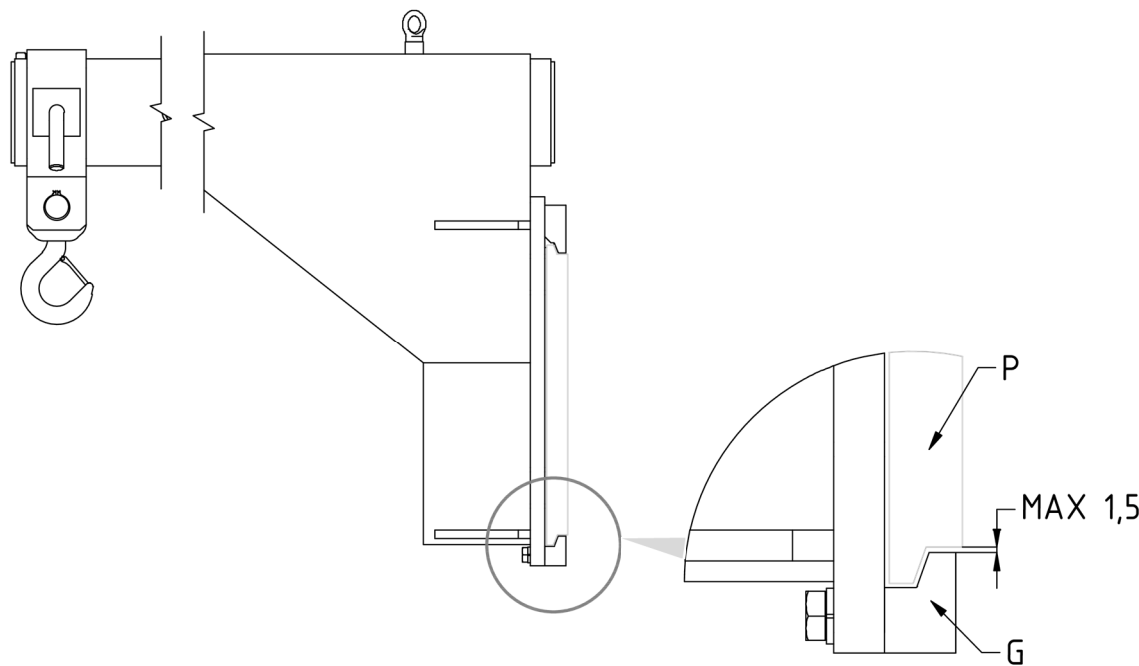

Figure 5
6. Tighter the 2 lower couplings **G** so that the body of the couplings remains coupled to the lower fork carriage plate **P** (with max. 1.5mm clearance, see *Figure 5*), and tightening with the torque indicated in *Table 2*.
2. Check the clearance between the lower part of the fork carriage plate and the lower equipment couplings, checking that it is as indicated in *Figure 5* on page 12, and, if necessary, tighten the screws that support them as indicated in *Table 2* on page 12.